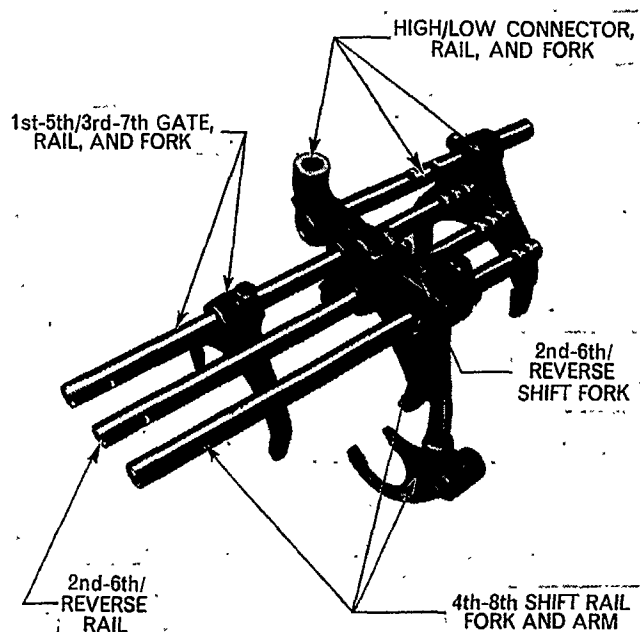

Figure 51
2. Pass the 4th-8th shift rail, Figure 51, into the rear of the bore nearest the left-hand side of the casing with the single detent to the front. Assemble the 4th/8th shift arm assembly onto the rail, so that the operating arm is located in the hole in the 4th-8th shift fork mounted on the reverse idler shaft.